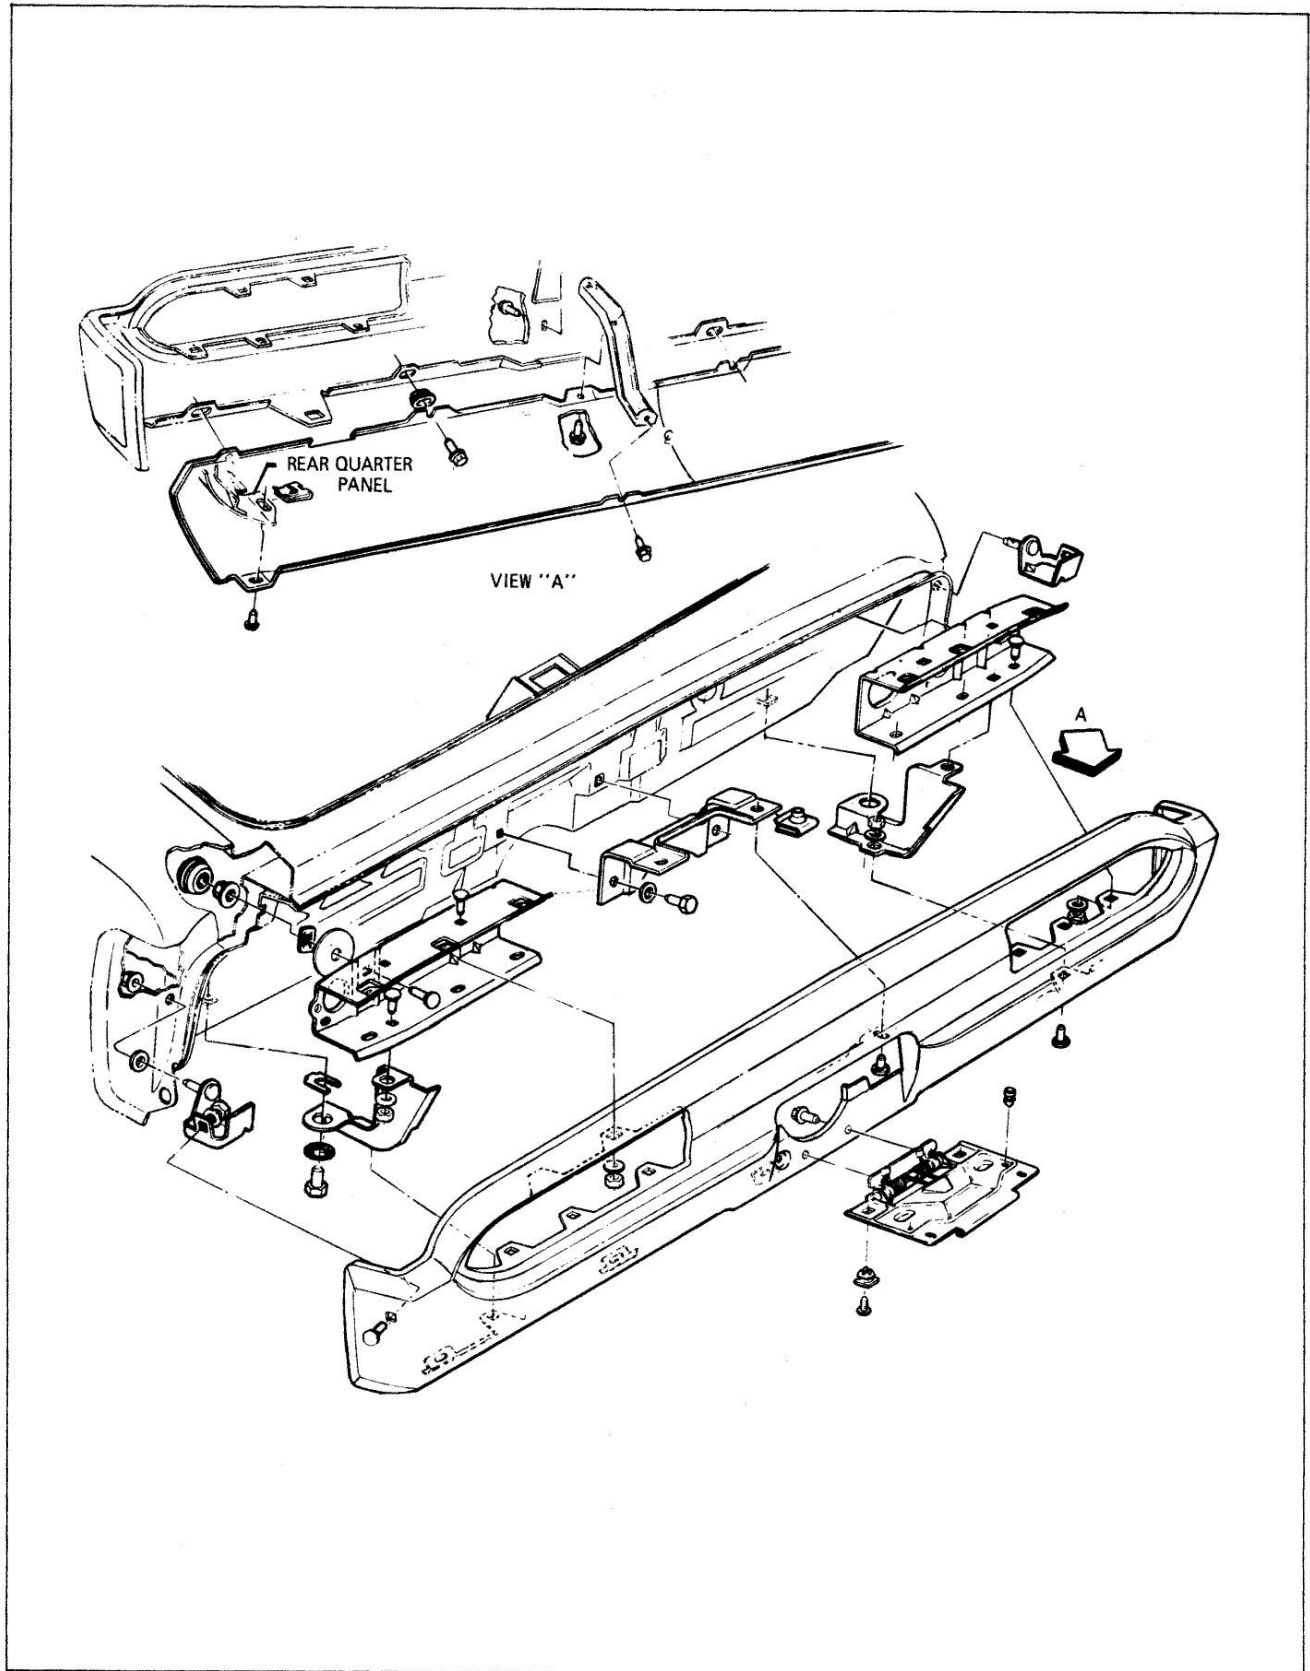

Fig. 14-14 Pontiac Rear Bumper Assembly
1. Remove valance panel (Fig. 14-14).
6. Support bumper-remove four (4) bracket attaching nuts and remove bumper.